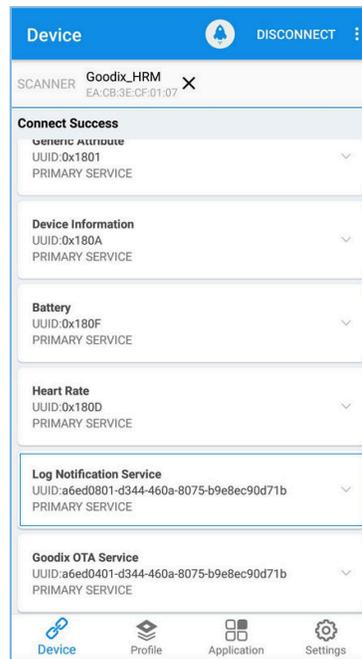

Figure 3-3 Successful discovery of LNS after connecting the phone to the Board on GRToolbox
1. Open GRToolbox on an Android phone and connect the phone with the GR5515 SK Board. **Log Notification Service** is then displayed, as shown in Figure 3-3.